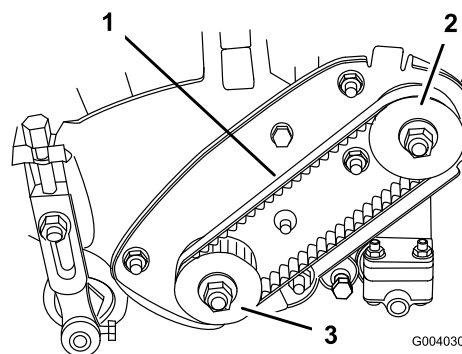

Figure 31
2. Check tension by depressing belt (Figure 31) at mid span of pulleys with 4 ± 1 lb. of force. Belt should deflect $3/16$ to $5/16$ inch (4.8 to 7.9 mm). If the deflection is incorrect, proceed to next step.